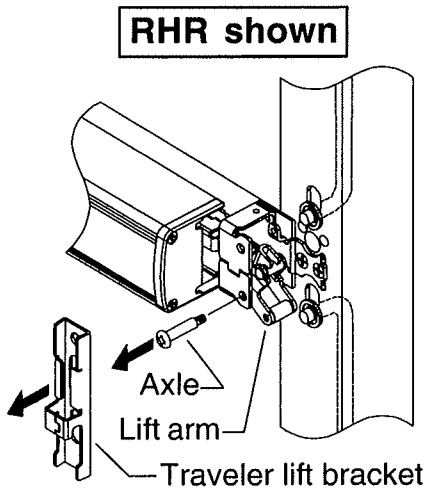

Figure 6-1
- 6.1. Remove traveler lift bracket and axle (Figure 6-1).